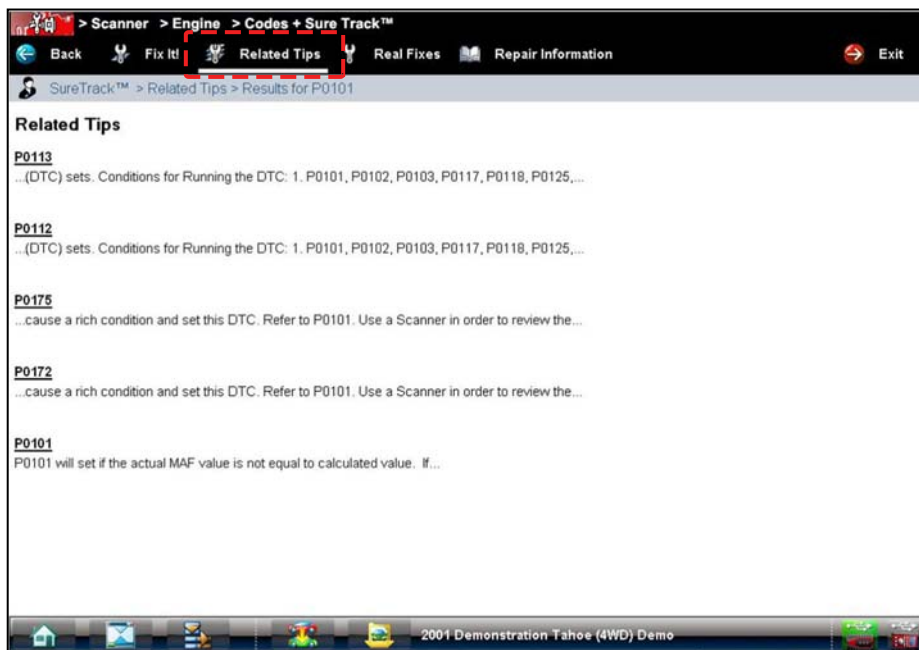

Figure 8-3 Sample Related Tips Screen
**Related Tips**—opens a list of tips that may include information that is related to the current DTC (Figure 8-3).